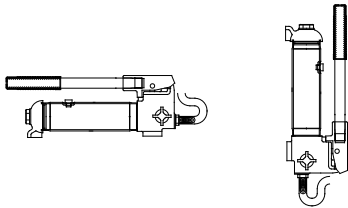

Figure 2 - Horizontal and Vertical position
**Note:** Pump may be used in horizontal and vertical position as illustrated (See figure. 2).